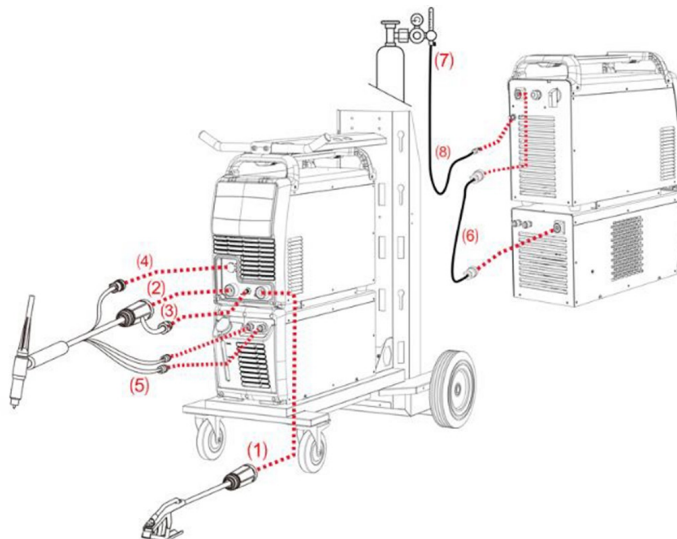

Figure 4: Connecting cables for TIG welding.
3. Connect the earth cable to the (+) socket (1).
4. Connect the gas hose to the regulator on the gas cylinder and to the connector on the rear panel (8) as shown in Figure 4.